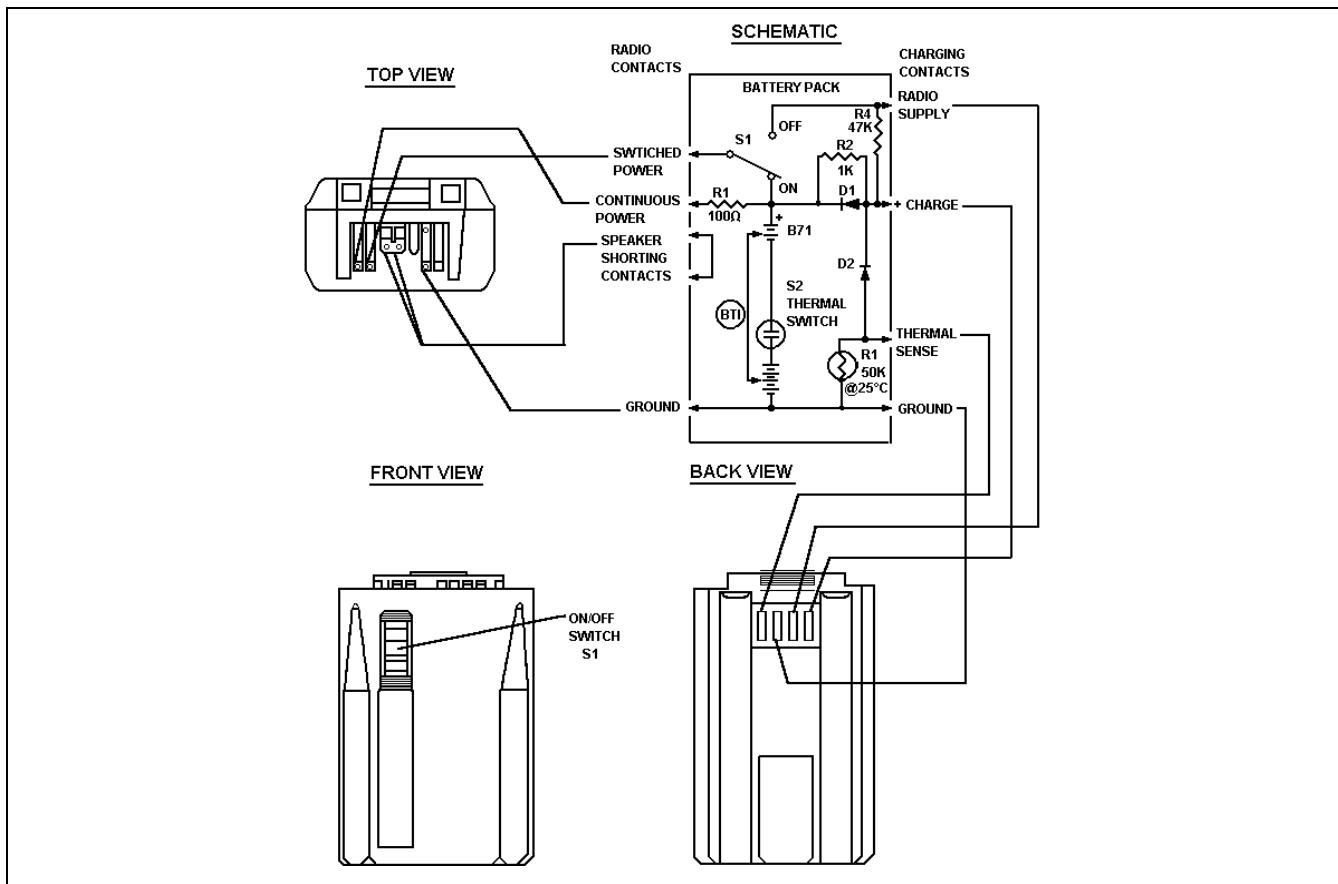

Figure 5 - Typical Battery Pack
Chargers are available with nominal charge times of 1 (rapid) and 14 (standard) hours. Combinations include single (1) and multi (5) position, standard and rapid charge units. The chargers utilize an internal thermistor in the battery pack to sense temperature and automatically control charge rate of the battery. This allows for a maximum charge rate without overheating the battery. All battery packs can be charged in less than 1 1/2 hours with the rapid type chargers. Nominal full charge time in a standard charger is 14 hours. Figure 5 outlines a typical battery pack.